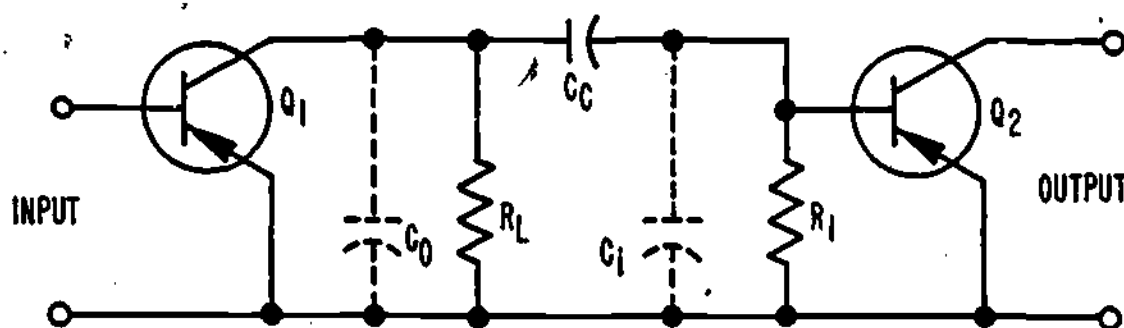

Figure 11
10. How do stray capacitors limit gain at high frequencies? Refer to the amplifier circuit shown in Figure 11.
In Figure 11, the (high/low) reactances of C_o and C_i shunt the high signal frequencies to ground.